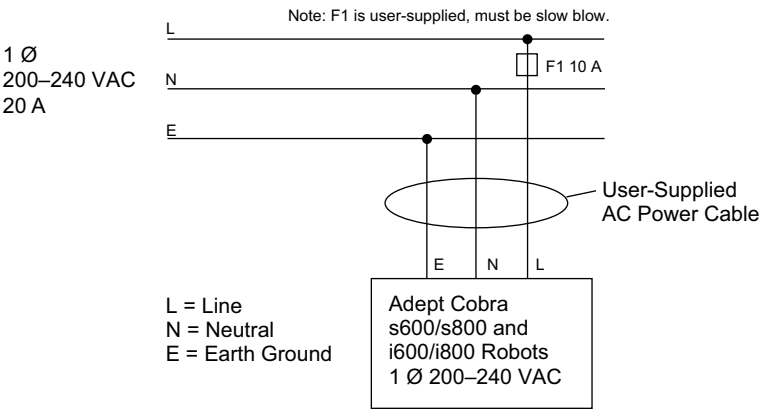

Figure 3-8. Typical AC Power Installation with Single-Phase Supply
1. Connect the unterminated end of the AC power cable to your facility AC power source. See Figure 3-8 and Figure 3-9 on page 33. Do not turn on AC power at this time.